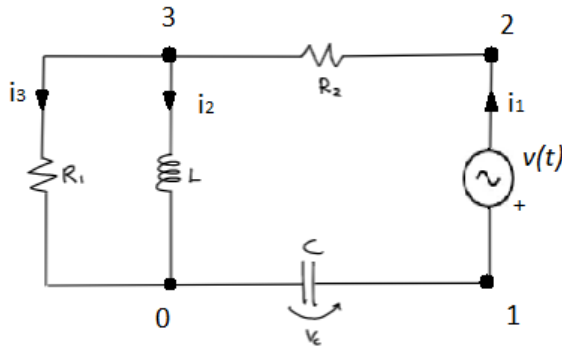

Figure 10: Circuit physical model.
1) In Figure 10 it has been drawn the general case with the generator $v(t)$ which in the case of simple discharging can be set equal to 0. The mathematical model has been written with voltages differences with respect to V_0 and it has been found imposing: